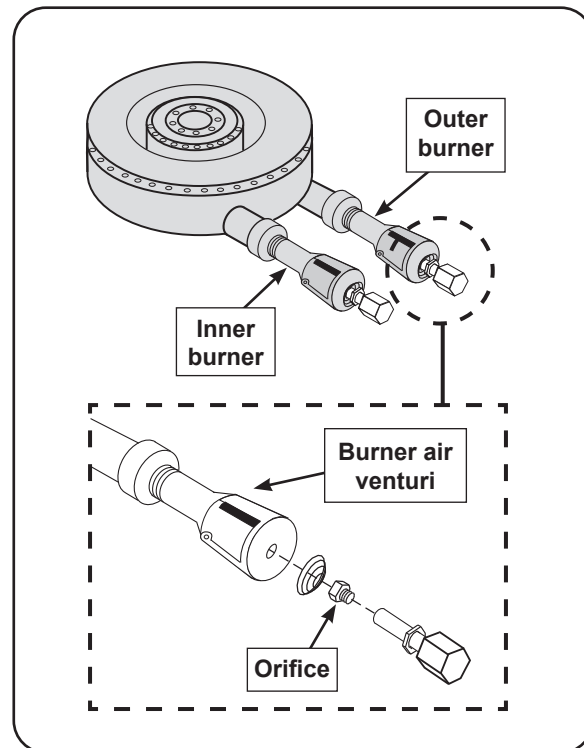

Fig. 45-1 Burner orifice orientation
2. Locate the orifices. The orifice size is stamped on each orifice face (see Fig. 45-1).